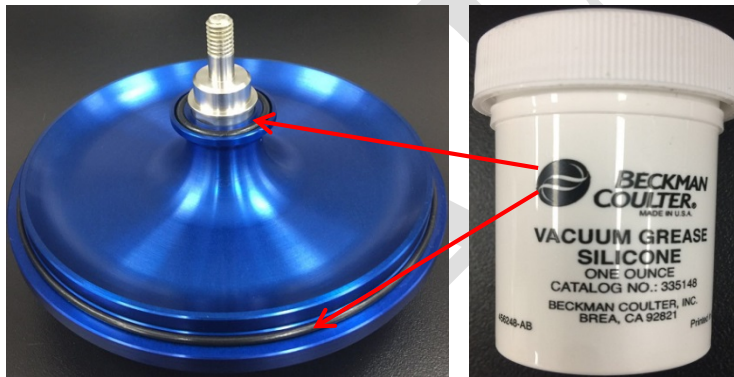

Fig.8 Lubrication area (vacuum grease silicone)
5.5.2 **For JLA-16.250:** Lightly coat the large and small lid O-rings with silicone vacuum grease (fig.8).